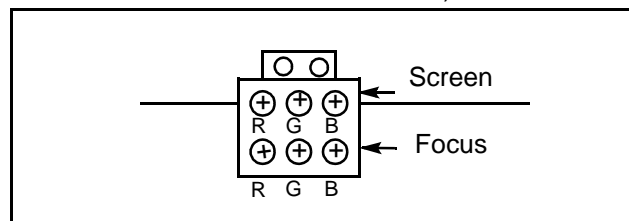

Figure 24. Focus Pack
4. Adjust the red, blue and green focus VR on the focus block for best focus of overall picture of each CRT. (Figure 24)